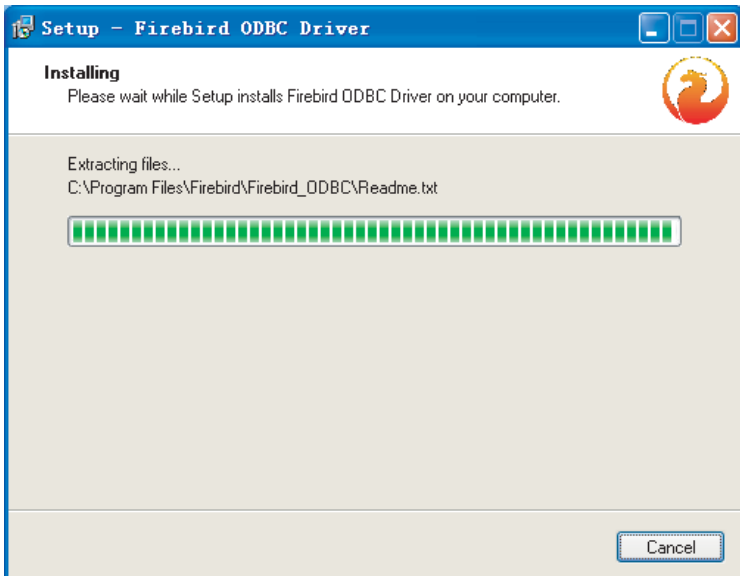
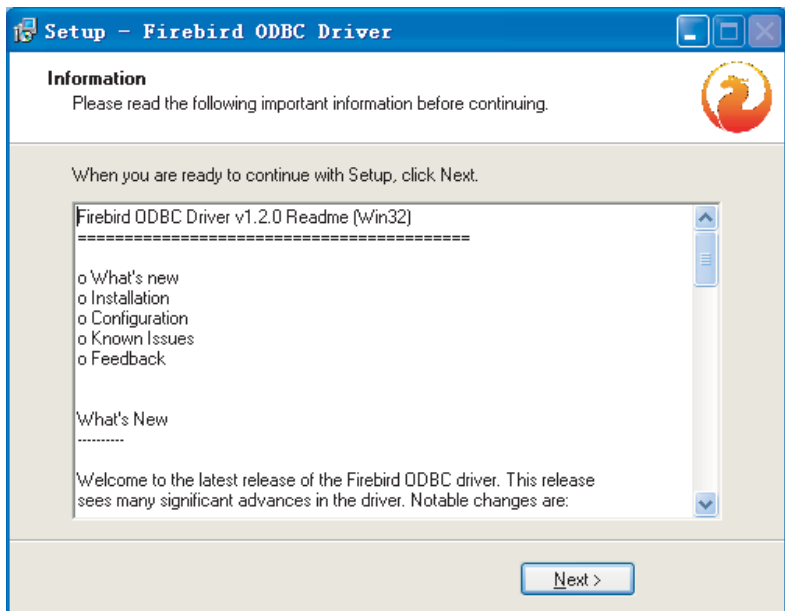

Fig. 2-22
Fig. 2-23
8) Installation window as Fig. 2-22, until the window as Fig. 2-23 displays, and then click “Next” to continue the installation: